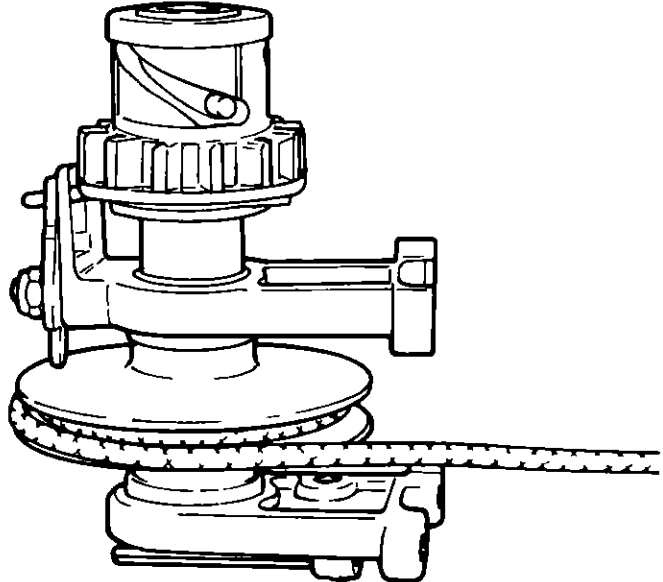

Figure 14. Manual Starter.
- 3 Remove manual starter Figure 14